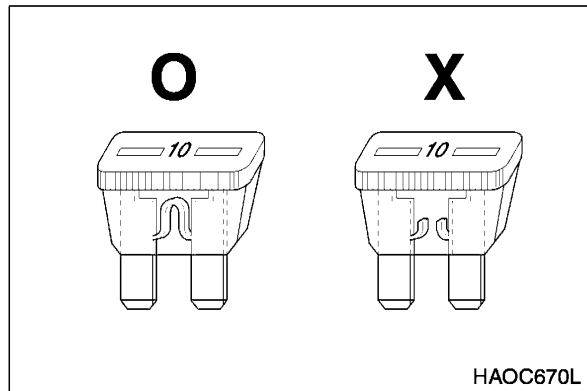

Figure 81
1. The fuses located in the fuse panel are used to protect the various electrical circuits and their components from damage. See Figure 81. The fuses used are standard automotive type fuses.